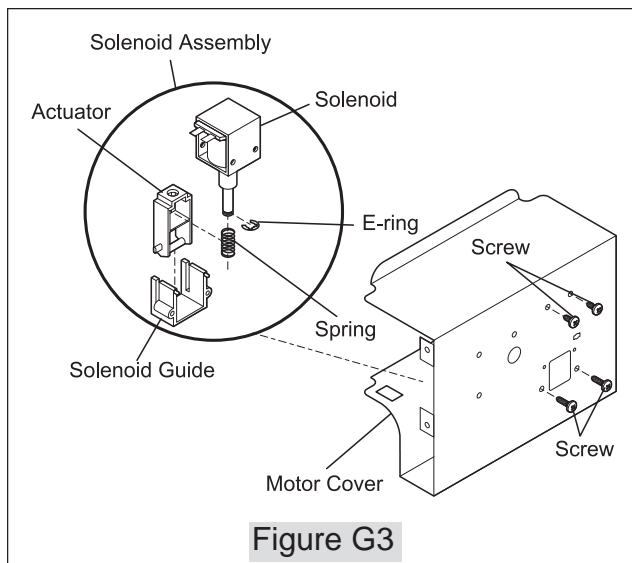

Figure G3
7. Remove four (4) mounting screws on front of Motor Cover and pull Solenoid Assembly free. (See Figure G3)